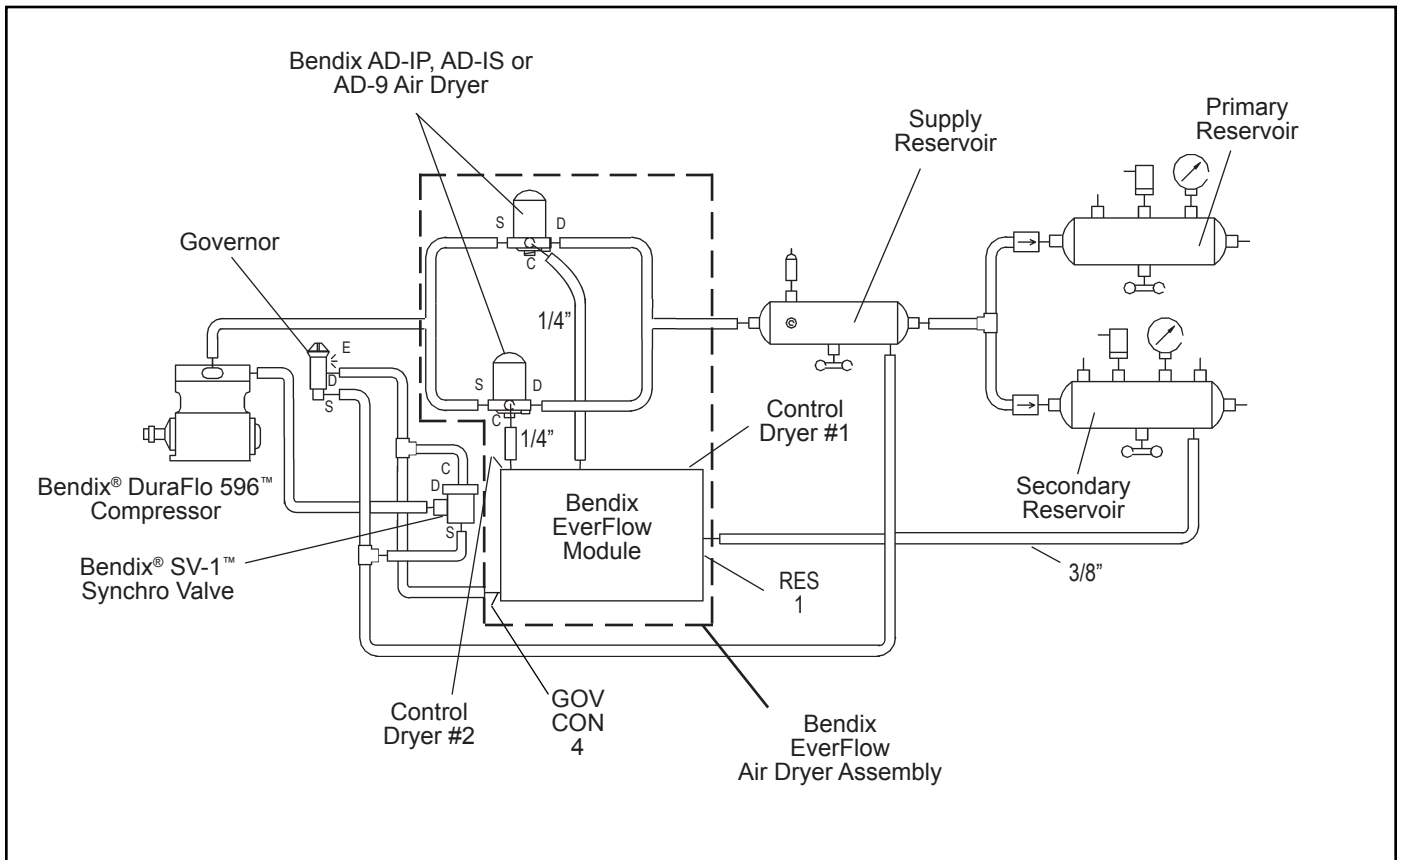

FIGURE 3 - BENDIX EVERFLOW AIR DRYER ASSEMBLY INSTALLATION WITH A BENDIX® DURAFLO 596™ COMPRESSOR
2. Mount the air dryers to the mounting bracket through the pre-drilled holes. See figure 3 for the air dryer mounting bracket and cable bracket locations. Using the hardware contained in this kit secure the air dryers. Torque to 25–30 ft-lbs (300–360 in-lbs).
Bendix® DuraFlo 596™ Compressor Installations (See Figure 3.)